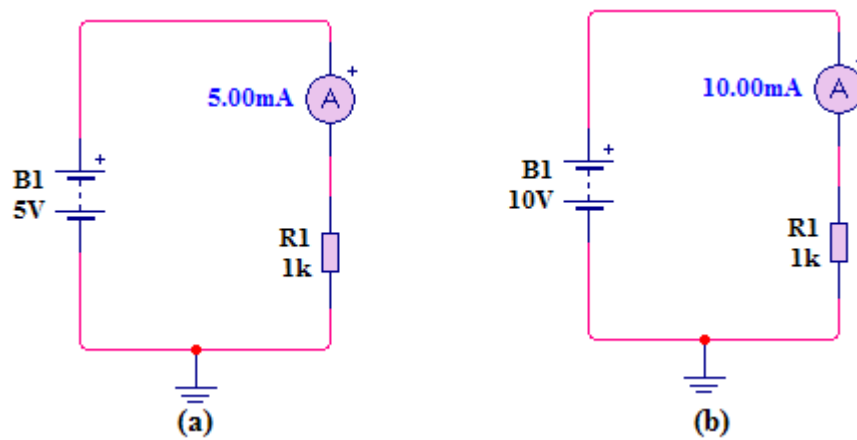
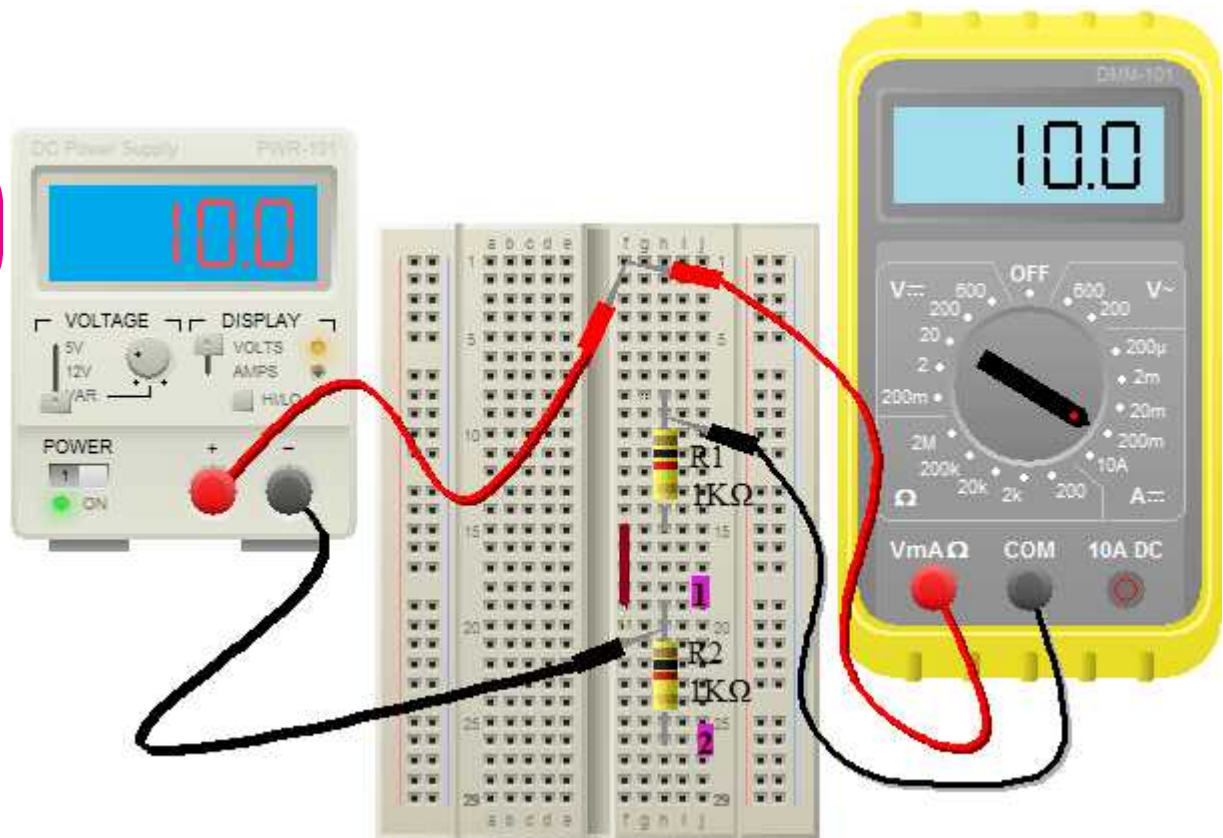

Figure 2-11: Effect on the current of changing of voltage with the resistance at a constant value; (a) Less V , less I ; (b) More V , more I .
Figure 2-14: Effect on current of changing the resistance with the voltage at a constant value.
Ohm determined experimentally that if the voltage across a resistor is increased, the current through the resistor will increase; and, likewise, if the voltage is decreased, the current will decrease. For example, if the voltage is doubled, the current will double. If the voltage is halved, the current will also be halved. This relationship is illustrated in the circuits of figure 2-11 through figure 2-14.
1. Connect the circuit as illustrated in pictorial view figure 2-14.
5. Replace a $1K\Omega$ resistor by $2K\Omega$ resistor and record the ammeter reading again. This should be 5mA. As the $2K\Omega$ resistor sometimes is awkward to get from resistors packet, this value is gotten by making two $1K\Omega$ series-resistors connection; at this time move only the negative terminal of the dc power supply between resistor R_1 (1) and ending terminal of resistor R_2 (2).